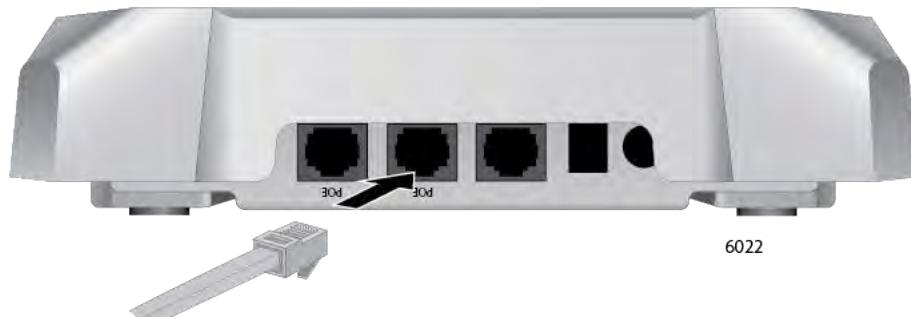

Figure 23. Connecting an Ethernet Cable to PORT1
1. To cable PORT1, connect an Ethernet cable into the port. The cable requirements are in “Cable Requirements” on page 27. Refer to Figure 23.